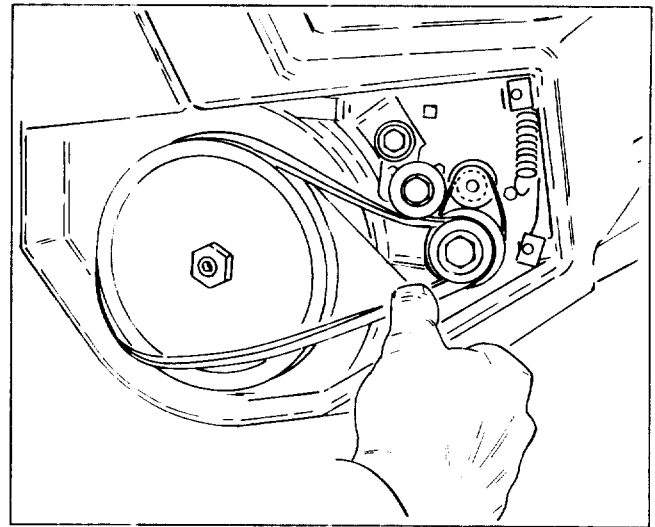
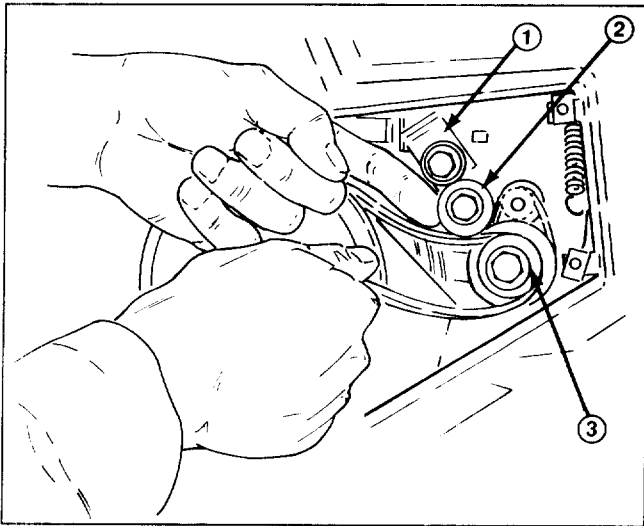

Figure 17
Figure 16
4. Slip new belt over small pulley. Lift up idler arm and slip belt under idler pulley (Fig. 16). Rotate rotor with left hand while walking (sliding) belt onto large pulley with right hand (Fig. 17).
8. Slip large belt over small pulley (Fig. 17). Refer to Large Belt Replacement, steps 4–6.